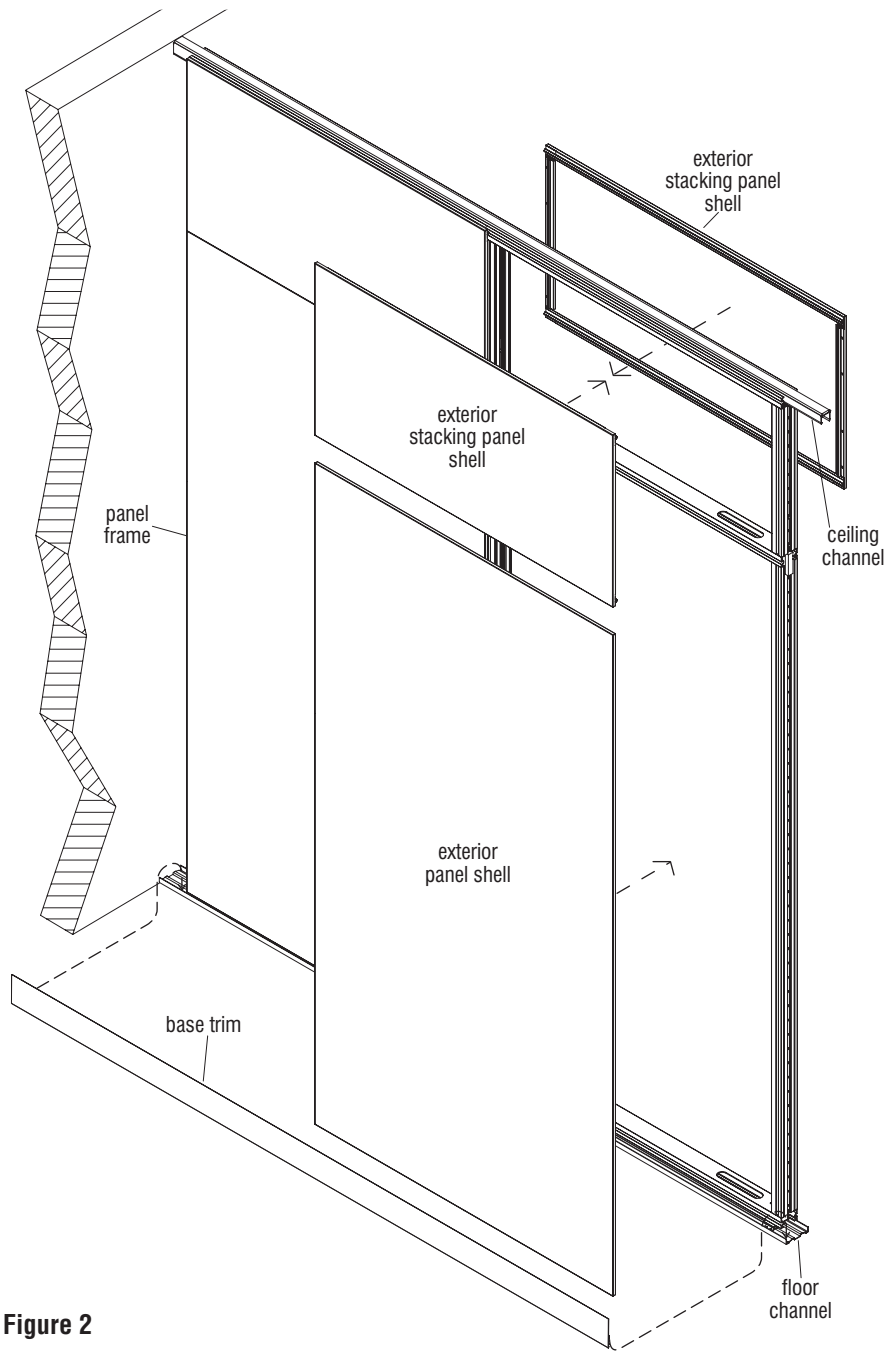

Figure 2
8. When all in the run of panels with factory assembled stacking sections have been leveled and secured to their final installation location, the panel shells, stacking panel section shells and base trim can be re-installed to the panel frame (Figure 2). See page 18 "Panel Shell/Trim Removal & Installation", steps 3 and 4 for full panel shell, and "Stacking Panel Section Overview", page 35 for solid or acoustic stacking panel shell components.